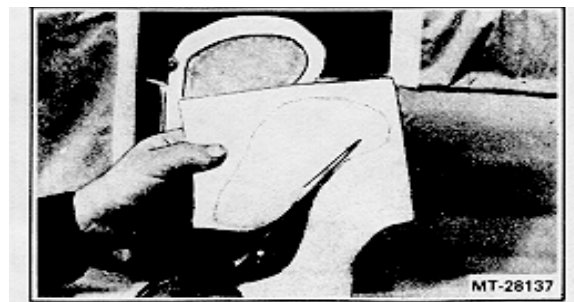

Figure 39 Cutting Mat For Filler
20. While the adhesive is hardening, cut some pieces of mat to fit into the hole in the panel (Figure 39) The mat is not a structural reinforcement, but a filler